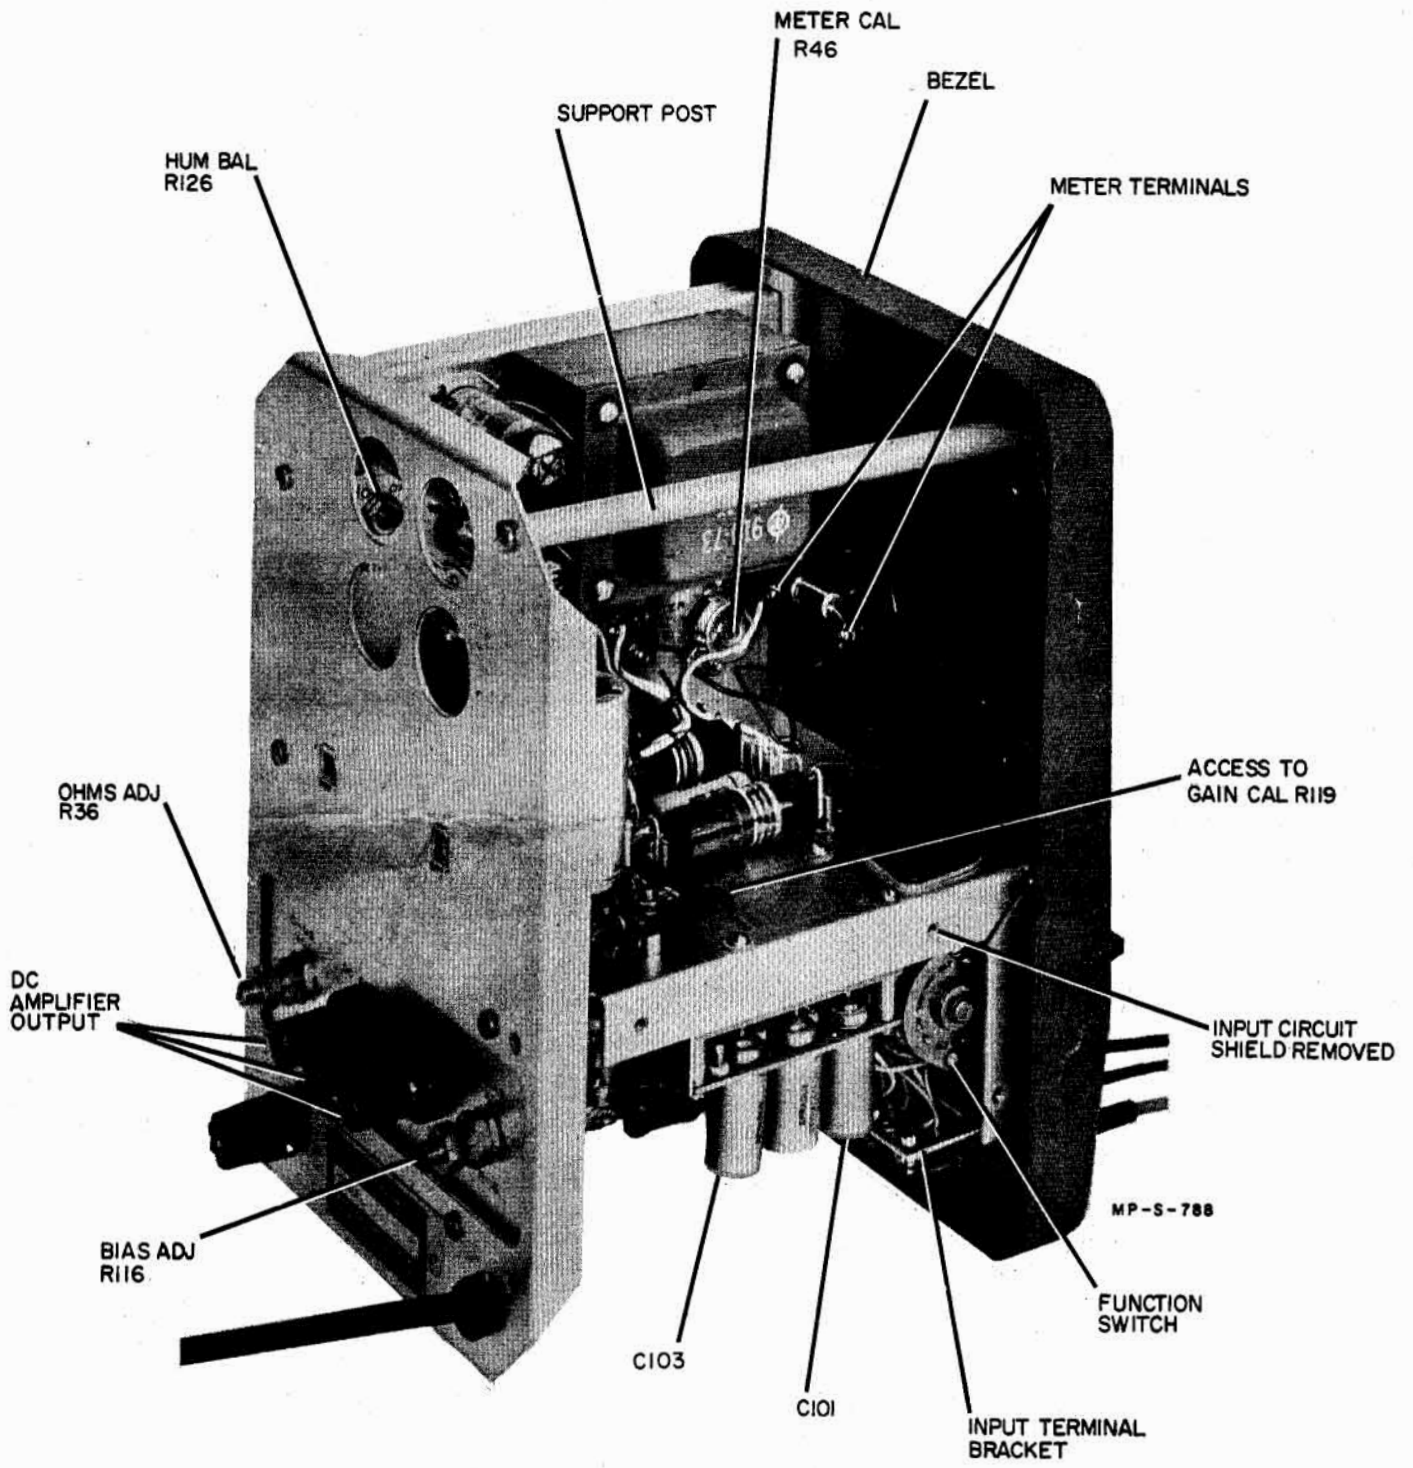

Figure 1. Model 412A Left Side View
- 2) Refer to figure 1. Remove input circuit shield.